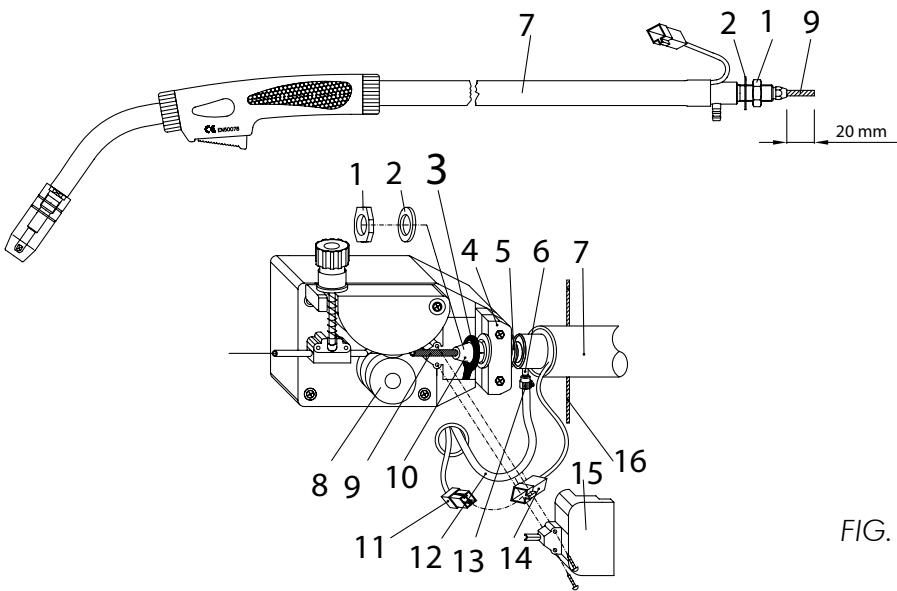

FIG. 4
3.3 TORCH LEAD ASSEMBLY – DIRECT CONNECTION (FIG. 4)
- Before fitting the torch hose assembly (7) on the machine remove the nut (1) and the washer (2). Then, measure the length of the liner from the brass nut (10). This measurement should be a maximum of 20mm, and should be carefully trimmed to this length using a good pair of side cutters, or similar
- Carefully feed the hose assembly (7) through the hole in the front face of the welder, taking care to feed the electrical connector (14) through at the same time. Then connect them to the wire feeder. Then insert also the threaded terminal ring (3), the power cable terminal, the washer (2) and screw on the nut (1) tightly.
- Fit the plastic cover (15) over the bracket assembly (4) securing with the two self-tapping screws provided.
- Connect the gas hose (12) to the gas hose nipple (6) securing with the hose clamps supplied (13).